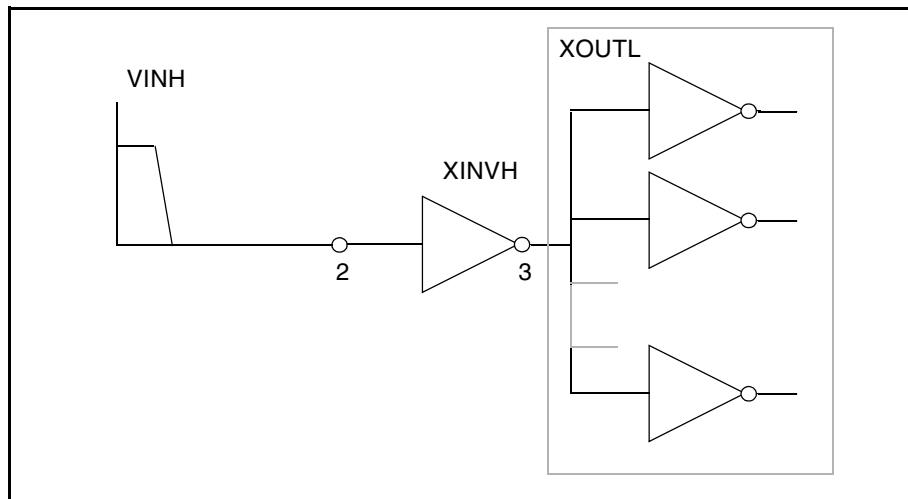
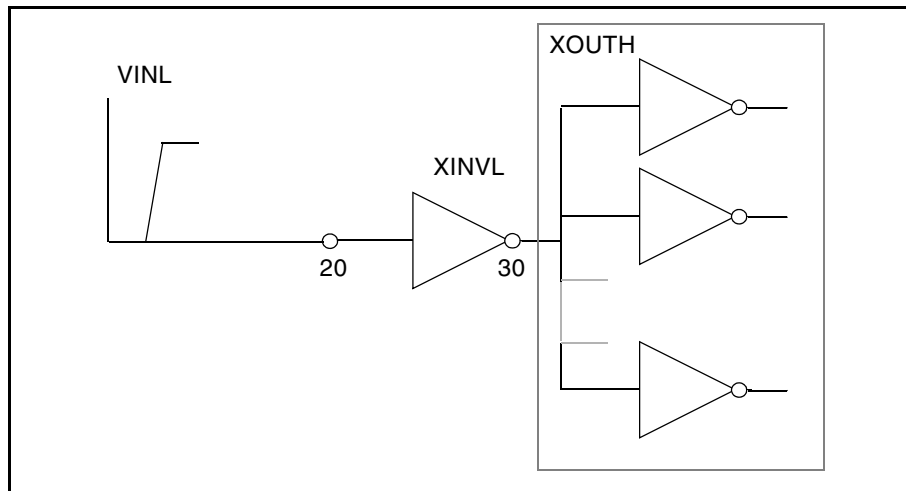

Figure 100 Cell Characterization Circuit 1
Figure 101 Cell Characterization Circuit 2
Figure 100 and Figure 101 are identical, except that their input signals are complementary.
- The circuit in Figure 100 calculates the rise time and the low-to-high propagation delay time.
- The circuit in Figure 101 calculates the fall time and the high-to-low propagation delay time.